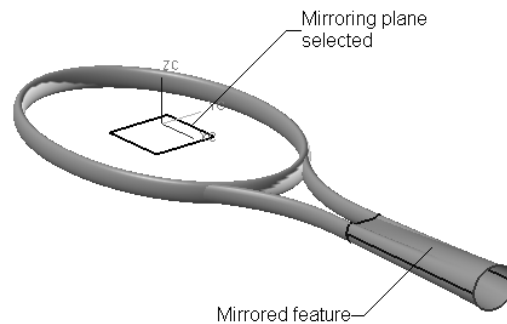

Figure 11-115 The resulting surface model after mirroring the surface
1. Mirror the studio surface using the XC-YC plane as the mirror plane. The resulting surface model is shown in Figure 11-115.